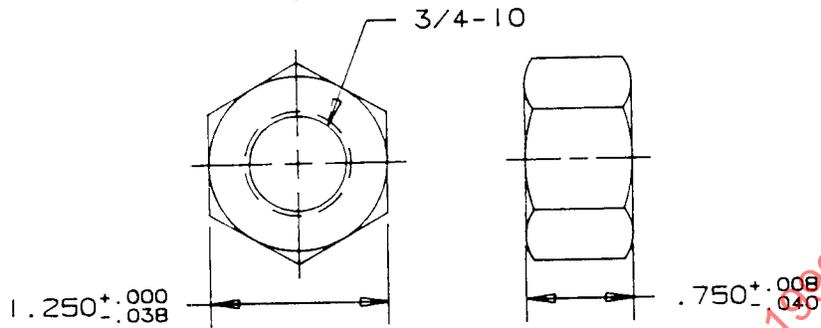

FIGURE 1—RIM CLAMP NUT
3. **Definitions**—A detailed listing of basic nomenclature is contained in SAE J393. Figures 1 through 8 and Tables 1 through 3, introduce, illustrate, and specify additional nomenclature and definitions. All dimensions are in inches unless otherwise specified. Single clamps are rim clamps with one hole and double clamps are rim clamps with two holes.